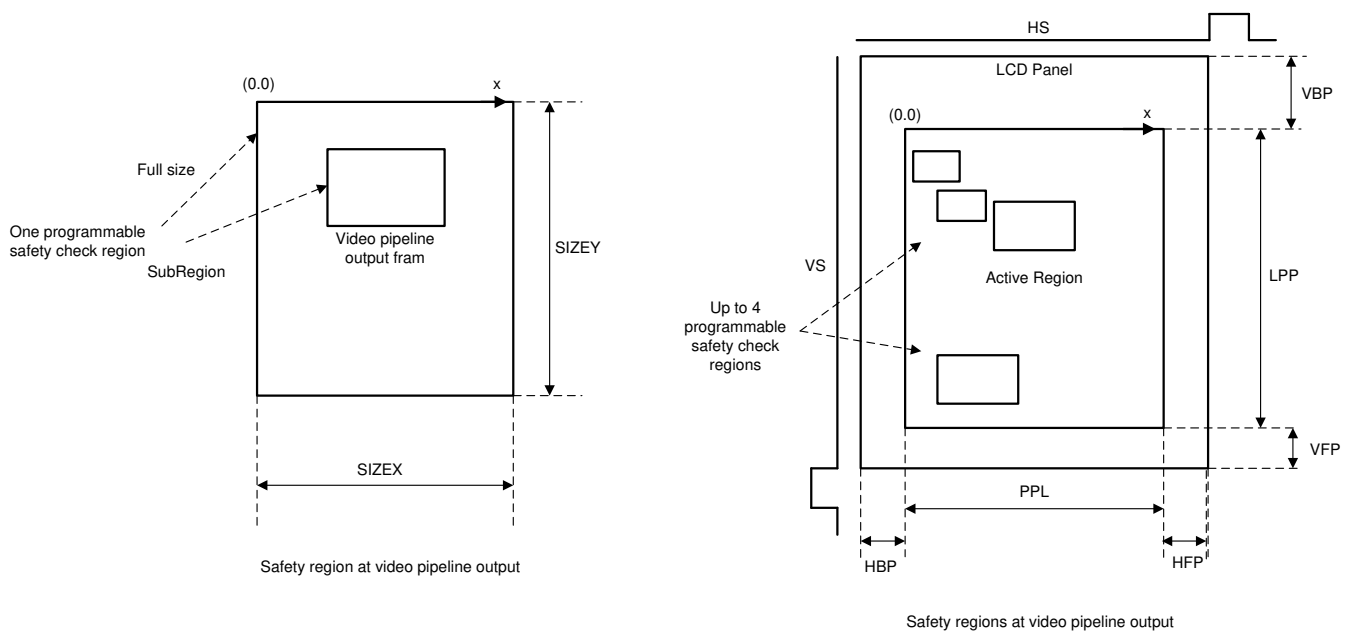

Figure 2-2. Display Subsystem Input and Output Frame Region Safety Checker
- DSS supports the following safety check regions to implement the safety as shown in Figure 2-2.